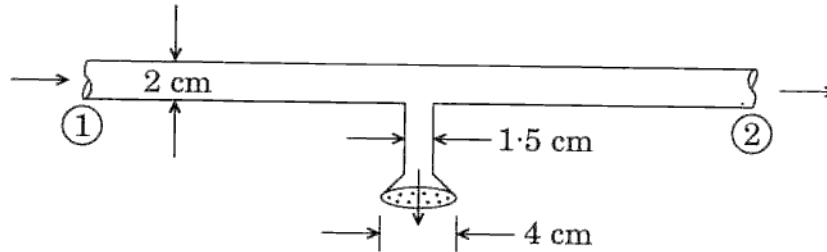

Figure 5(a)
- Q5. (a) Water flows steadily through the piping junction, entering section ① at $0.12 \text{ m}^3/\text{min}$. The average velocity at the section ② is 2.2 m/sec . A portion of the flow is diverted through the showerhead, which contains 100 holes of 1 mm diameter. Assuming uniform shower flow, estimate the exit velocity from the showerhead jets. Take density of water = 1000 kg/m^3 . (Please refer Figure 5(a))